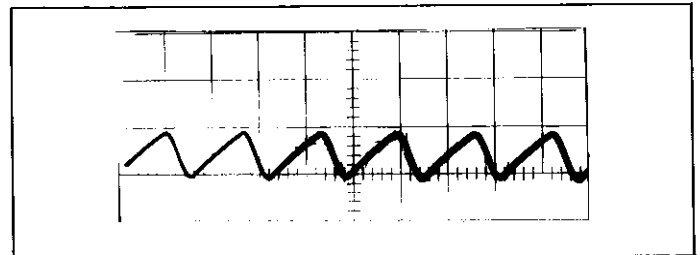

FIGURE 8. Typical Ripple Obtained for the 26 Volt Supply. The scale is 1 volt per division vertical, and 5 milliseconds per division horizontal.
2. Connect the AR101 Model 301 Amplifier input (Figure 8) to a Model 610C Electrometer. Use an adapter or cable with a Keithley Type CS-178 jack on the end for connection to the AR101 Input. Operate the Model 610C in Normal mode on the  $10 \times 10^9$  ohms range. With the + INPUT ZERO CHECK Button fully depressed or in LOCK, the Electrometer meter should indicate zero.
3. Figure 8 shows a typical ripple obtained for the 26 volt supply.